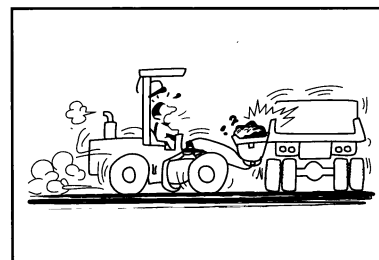

Figure1-72
- When a truck cooperating with the loader, avoid of the bucket colliding with the truck. No one can stand under the bucket and don't hang the bucket over the cab of the truck. (Figure 1-72)